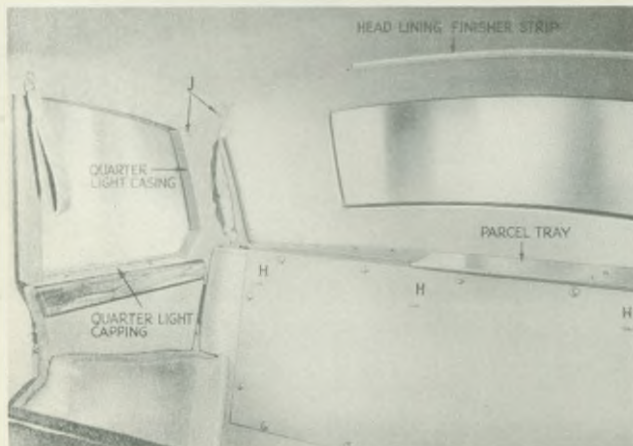

Fig. 26. Showing parts to be dismantled when removing the rear light
2. Remove rear seat squab held in by two screws in rear of seat pan (visible just below base of squab) and by three screws accessible from boot compartment. The position of these screws is shown (marked H) in Fig. 26.
5. Remove both rear quarter trimmed casings (two screws 'J' in Fig. 26). It may be found necessary to temporarily remove the rear screw of the quarter light facia capping as the material covering the casing sometimes is pinned by this screw also.